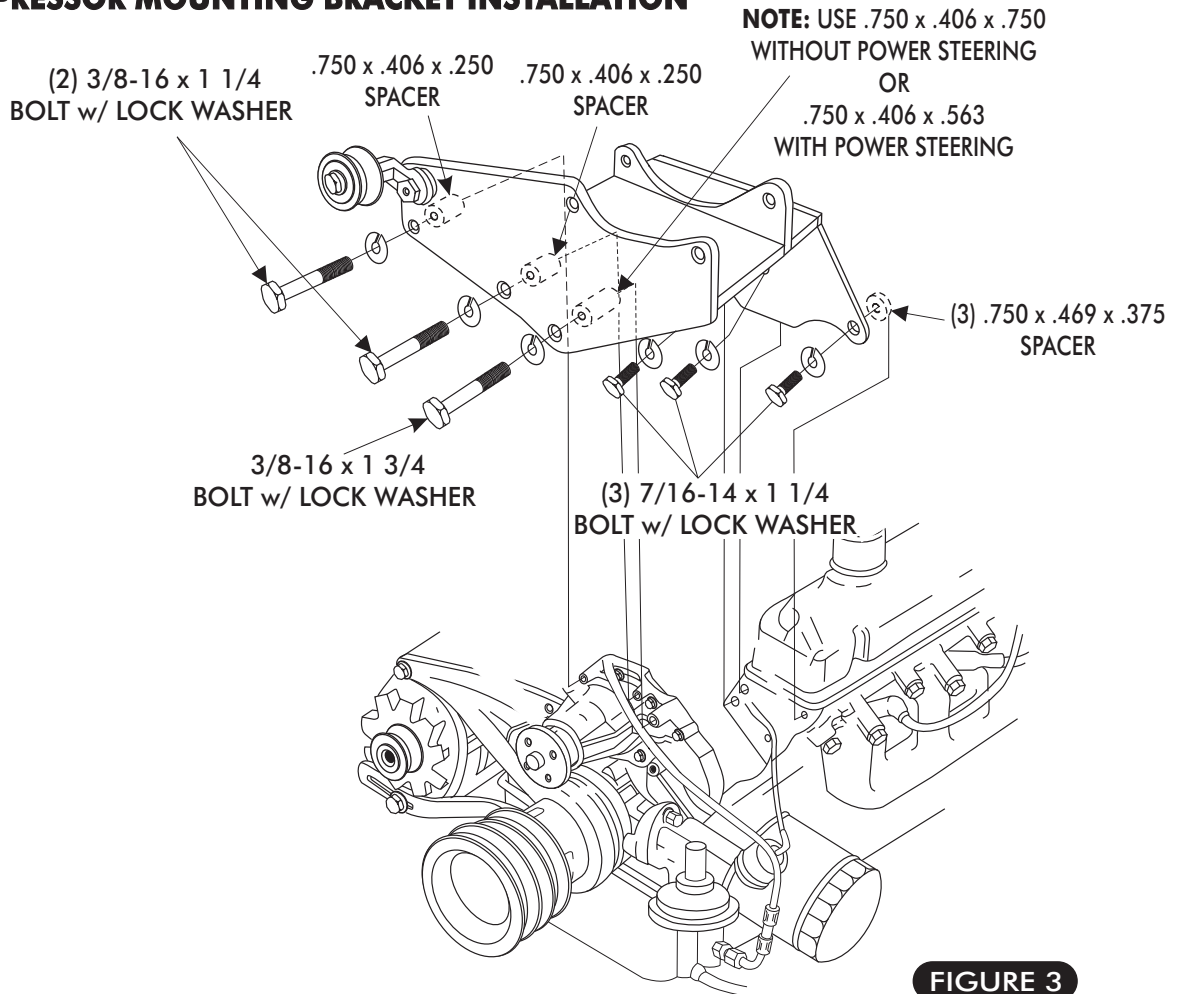

FIGURE 3
- 6. ATTACH COMPRESSOR MOUNTING BRACKET TO THE ENGINE USING, (3) 3/8 BOLTS w/ LOCK WASHERS AND (3) SPACERS. (NOTE: THE LEFT MOUNTING BOLT WITH LOCK WASHER WILL GO THROUGH THE COMPRESSOR BRACKET WITH A .250 SPACER BETWEEN THE COMPRESSOR BRACKET AND WATER PUMP. THE TOP CENTER MOUNTING BOLT WITH LOCK WASHER WILL GO THROUGH THE COMPRESSOR BRACKET WITH A .250 SPACER BETWEEN THE COMPRESSOR BRACKET AND THE WATER PUMP. NOTE: THE RIGHT MOUNTING BOLT WITH LOCK WASHER WILL GO THROUGH THE COMPRESSOR BRACKET WITH A .750 SPACER (w/o POWER STEERING) OR A .563 SPACER (w/ POWER STEERING) WILL GO BETWEEN THE COMPRESSOR BRACKET AND WATER PUMP. SECURE THE REAR PORTION OF THE COMPRESSOR MOUNTING BRACKET TO THE HEAD USING (3) 7/16-14 x 1 1/4 BOLT w/ LOCK WASHER, AND SPACER. THE (3) .750 x .469 x .375 SPACER WILL GO BETWEEN THE COMPRESSOR MOUNTING BRACKET AND THE HEAD. **SEE FIGURE 3 PAGE 5.**